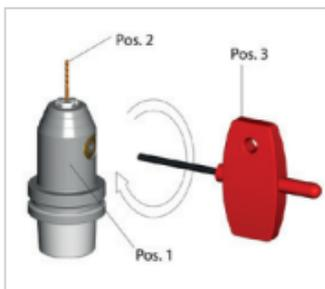

Figure 3: Clamping tool.
- Turn the pinion clockwise to the stop with the aid of the hex-wrench (see "Figure 3: Clamping tool.", Pos. 3).